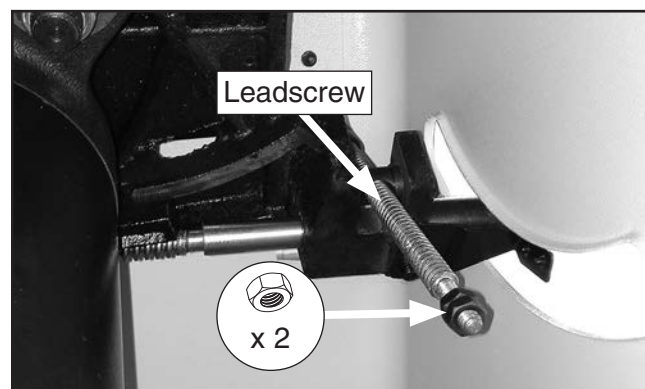

Figure 107. Location of 90° stop nuts.
5. Loosen (2) M8-1.25 hex nuts on leadscrew (see **Figure 107**).